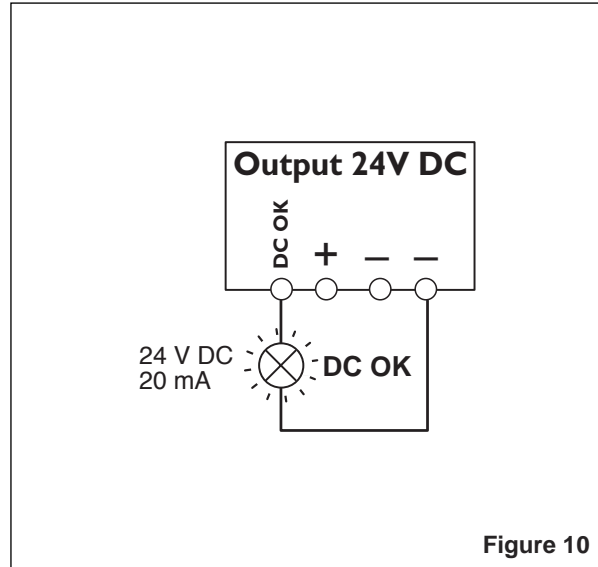

Figure 10
**Active signal output (③ , Figure 10)**